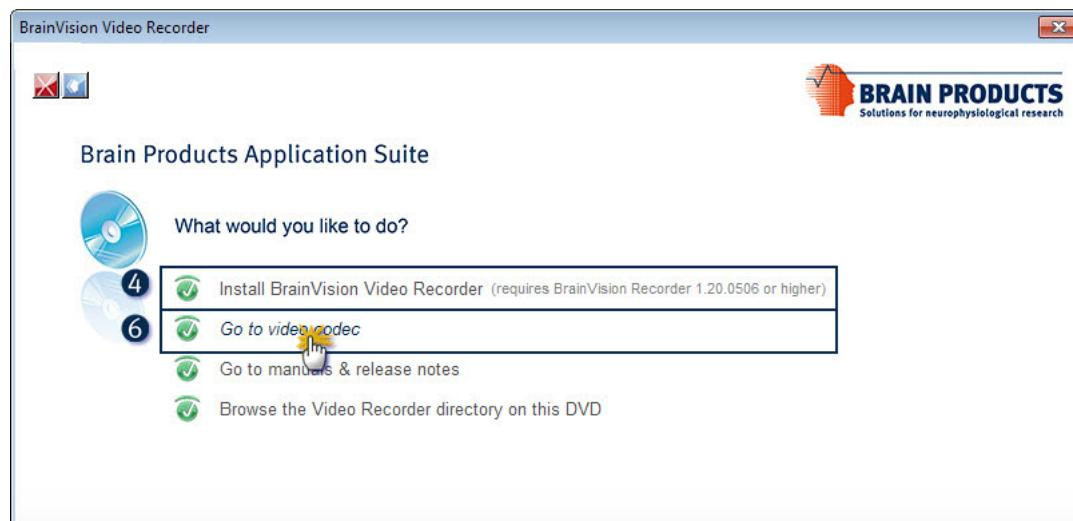

Figure 10-3. Installing the video codec
- 6 Go to the installation menu of *BrainVision Video Recorder* and click on **Go to video codec** (Figure 10-3). This opens a folder containing the installation program for the video codec.